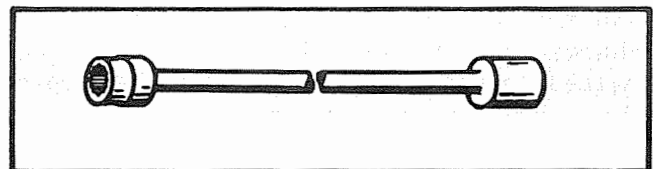

Figure 7-52. Push Rod Housing Adapter Attaching Nut Wrench
e. Remove the push rod housing adapter attaching nuts and washers. Use wrench 806644, (figure 7-52). Remove the upper vent tube clamps from the front left hand stud for the adapter on the intake side of cylinders No. 12 and 14. Tap the adapter lightly with a fiber mallet to break the seal. Slide the adapter and push rod housing nut back on the housing as far as they will go.